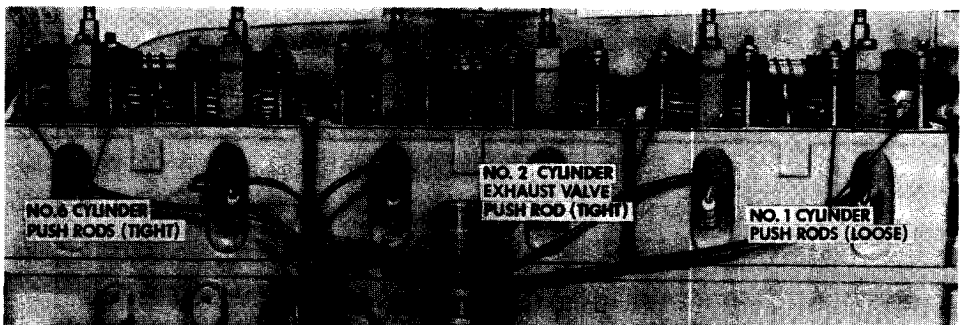

Figure 64
B. When the Number 1 piston is at top dead center on the compression stroke, the push rods will be loose on Number 1 cylinder. The push rods for the exhaust valve on Number 2 cylinder will be tight. Refer to Figure 64. If the reverse is true, crank the engine one complete revolution .